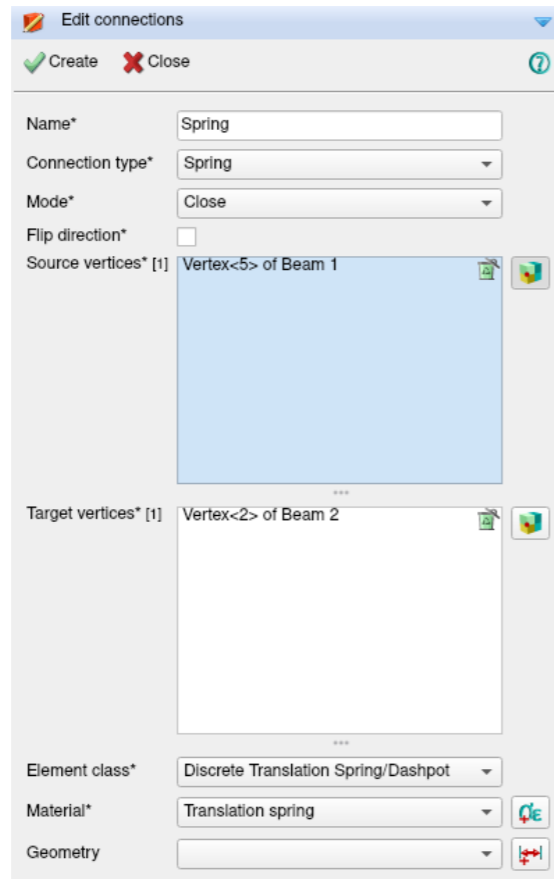

Figure 45: Spring connection
**Main menu** → Geometry → Assign → Connections  [Fig. 45]